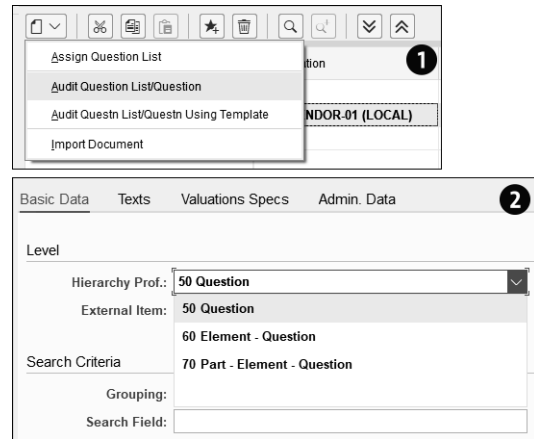
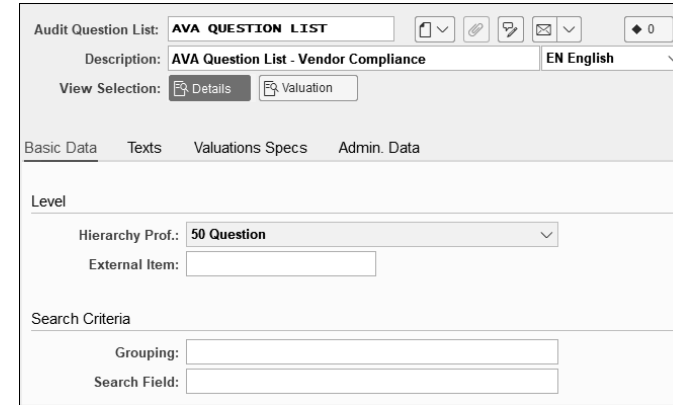
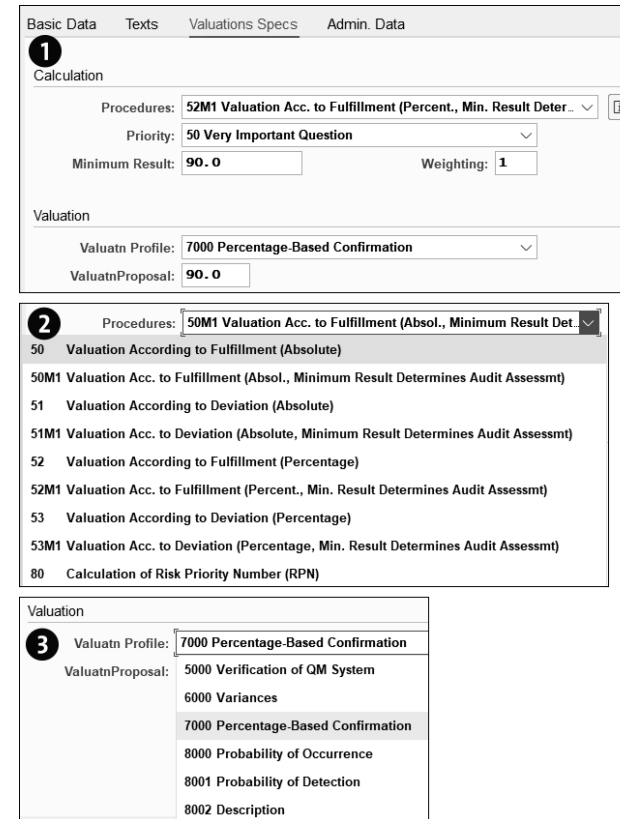

Figure 14.7 Question List
Figure 14.8 Basic Data of Question
Figure 14.9 Valuation Specifications for Question
In Figure 14.7 **1**, right-click **Audit** on the left-hand side of the screen. The system brings up the option to create an audit question list/question. Choose **Audit Question**
List/Question, and Figure 14.7 ② appears. The **Hierarchy Prof.** (profile) controls different levels of audit question lists or questions. For example, a question list or a question may have further parts or elements that form its overall structure. With hierarchy control, you can control this, as well as which question, part, or element the system should value during an audit valuation. Choose **Question**; Figure 14.8 shows the valuation details of the question.
Figure 14.8 shows **View Selection**, which offers the option to maintain details of the question, whereas the **Valuation** view is the option that you use in the business process of audit management. At this time, you're maintaining the setup for audit management, so maintain the question's details, such as texts and valuation specifications. Choose **Valuations Specs.** to go to the screen in Figure 14.9.
Figure 14.9 ① consists of the calculation procedure, as well as the valuation of the question that you saw while creating the audit. Here again, the **Minimum Result** for this question should be 90.0. You can control the weighting that this question can have. For example, a weighting of 2 enables the system to give twice the weight or importance to this question during audit calculation (valuation). The **Valuation Profile** controls whether you can enter the result of the question as a percentage, quantity, or code (which also contains either a percentage or valuation on a scale of 1 to 100). A **ValuatnProposal** (valuation proposal) of 90.0 automatically brings this value up for the business user as a default value, which may deviate from the actual audit finding/assessment of this question. Figure 14.9 also shows the dropdown options available for **Procedures** ② and **ValuatnProfile** ③.
You can also create a question list in advance and then assign it when the actual audit is conducted so that the latest and most updated question list applies to the audit. The option to create a question list is available when you first create an audit plan or an audit. To assign an already created question list to an audit, refer to Figure 14.7 ❶ and choose **Assign Question List**.